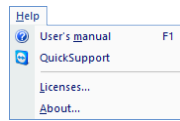

Figure 48 – Help menu
- **Help** – displaying the application version, installing licenses and browsing the electronic version of the user's manual (see Figure 48).